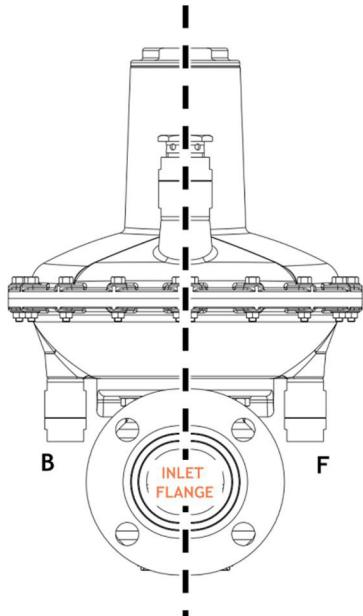

Figure 9: Regulator Sense Line Location
Figures 9 and 10 below indicate the position of the sense lines for the regulator and the optional VSI-22. Please specify desired sense line positions or the standard position (F) will be used for the regulator and VSI-22.